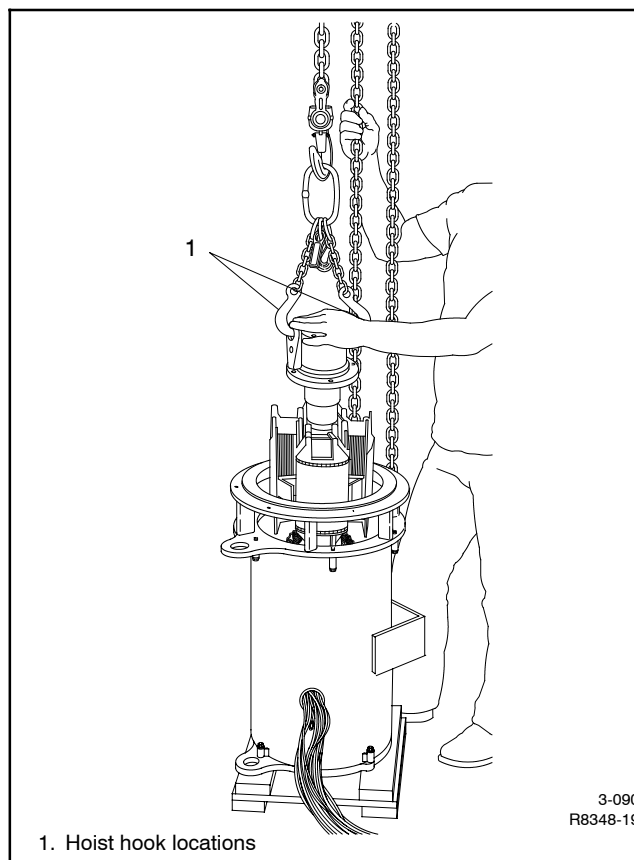

Figure 11-10
24. Fasten the lifting eye and hoist hook to the rotor flange. Hoist the rotor assembly carefully to avoid damaging the windings, laminations, or bearing. See Figure 11-10.